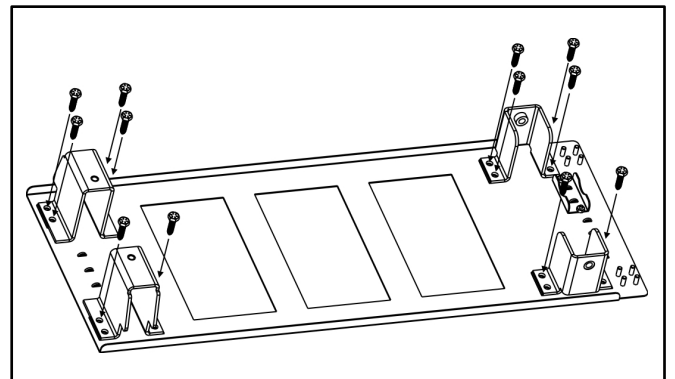

Figure 4. Mounting screw locations (swing-out mechanism omitted for clarity)
- ④ The swing-out feature of the SOA-5U is held shut by two 1/4"-20x1" hex-cap screws, one in each of two latches on the frame. Remove both screws and set them temporarily aside. This will allow the swing-out portion to be opened or closed as needed for access to remaining mounting holes.
- ⑤ Hold the back of the frame firmly against the mounting surface and install twelve of the included 1/4" x 1" wood screws starting with the upper corners (Figure 4).
- ⑥ Reinstall the two 1/4"-20x1" screws (removed in step 4) that hold the swing-out portion closed.